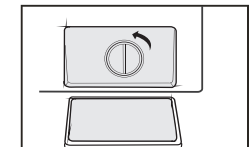

Fig 19
2. Turn the filter anti clockwise as shown with the figure and take out sundries matters (Fig19).